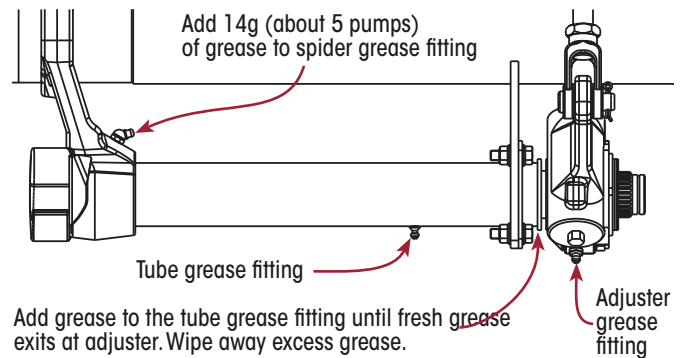

Figure 83: TRLAXLE Cam Tube Lubrication
8. Lubricate the single, centrally located grease fitting on the cam tube. Add grease to cam tube until fresh grease can be seen purging from the end of cam tube at points shown in Figure 83.
9. Apply approximately 14 g (0.5 oz.) of grease to the fitting at the spider. Refer to Figure 83. This equates to around five pumps from a regular hand-held grease gun.